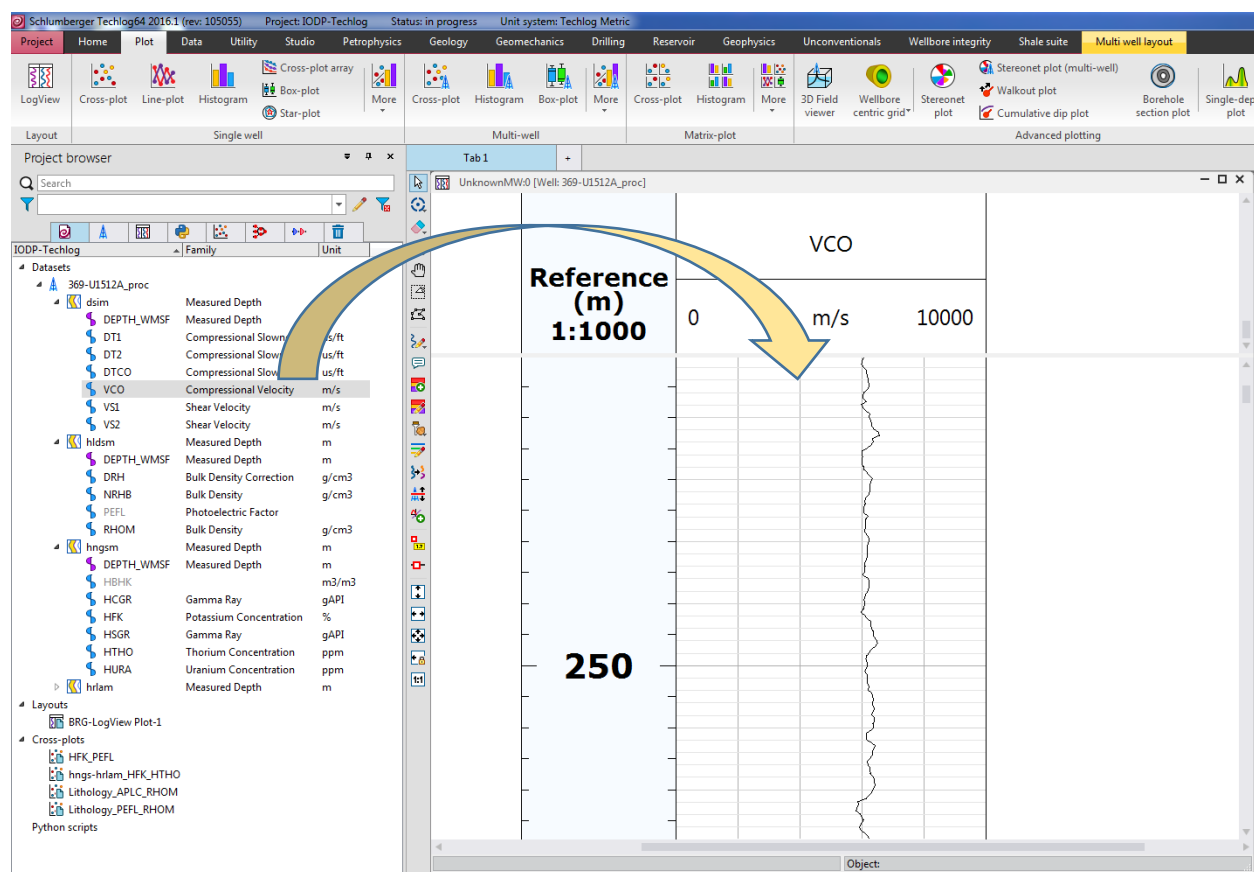

Figure 16: Plot menu toolbar and new LogView plot with a reference (Depth) and variable (VCO) track added.
1. In the Plot menu toolbar, click the LogView button (Fig. 16). A new Log View window will appear in the Display area,
2. Select a variable from the Project browser > Dataset. Click-and-drag the variable into the LogView window (Fig. 16).
1. To expand the window of the Log View Plot, click on the maximize (square icon) button on the upper right corner of the window (Fig. 16)